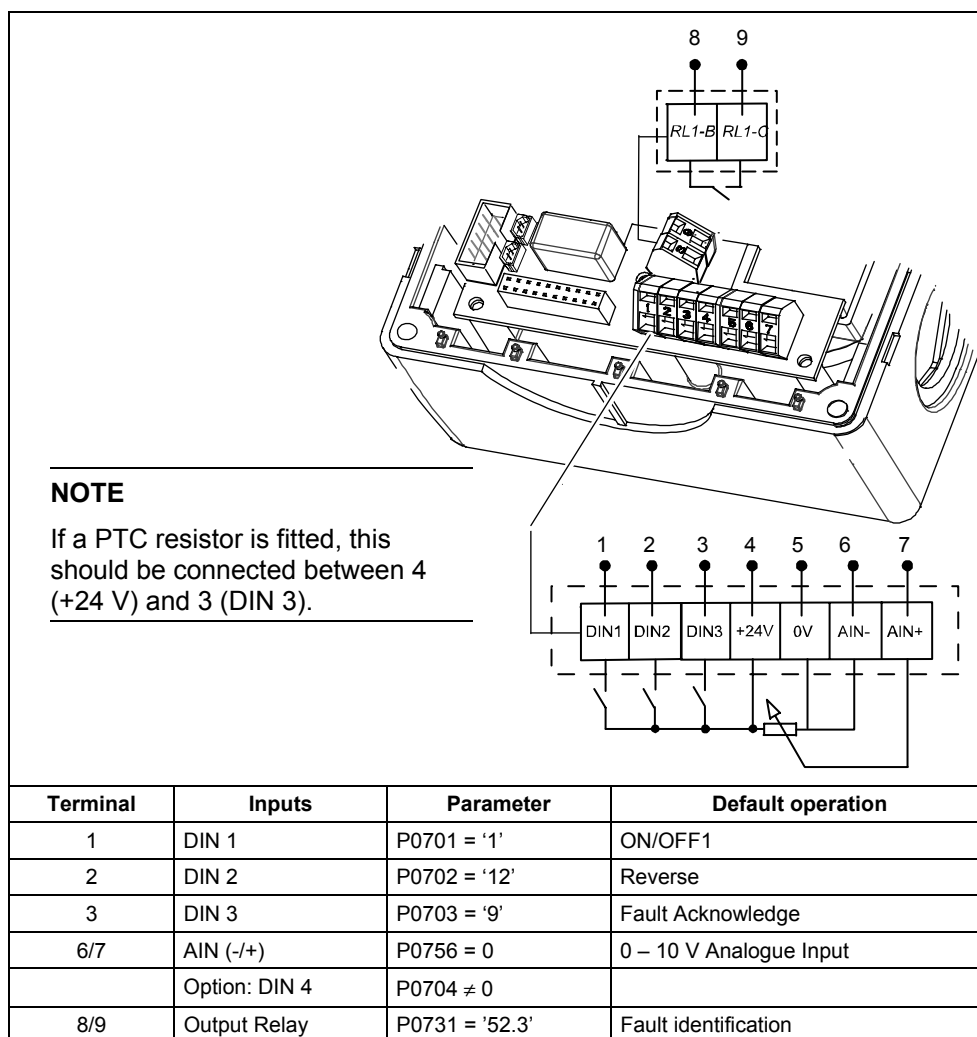

Figure 2-11 Control Terminals
3. Connect the control wires in accordance with the terminal information given in Figure 2-11.